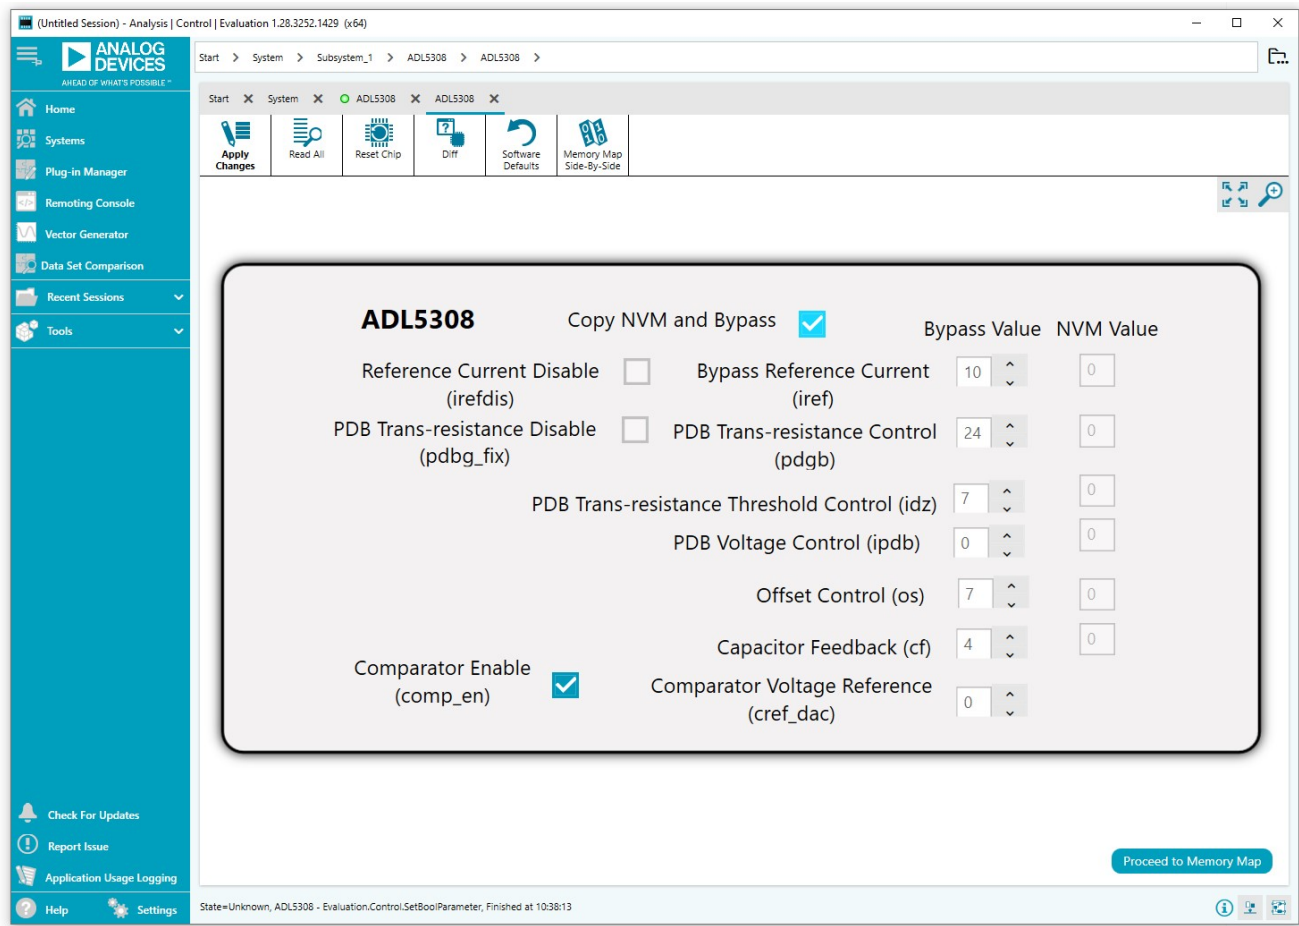

Figure 4. Register Control GUI
13. Double-click the **ADL5308** icon. The ADL5308 GUI window opens, which shows the register settings that can be changed as shown in Figure 4. For more information, refer to the Register Summary section of the ADL5308 data sheet.